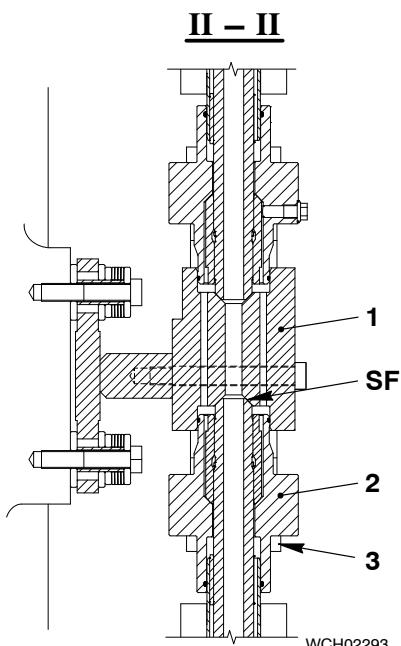
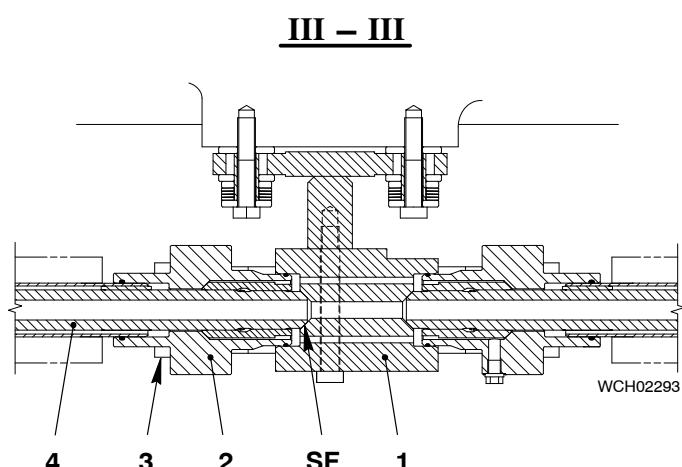

Fig. 7
Fig. 8
- 8) Remove the four screws (3, Fig 7) from the flange (2).
- 9) Carefully move the flange (2) away from the intermediate piece (1).
10) Remove the four screws (3, Fig 8) from the flange (2).
11) Carefully move the flange (2) away from the intermediate piece (1).